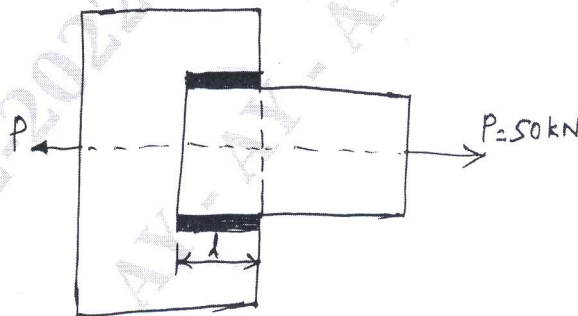

Fig Q8(a)
- 8 a. Two plates are joined by means of fillet welds as shown in Fig Q8(a). The leg dimension of the weld is 10mm and the permissible shear stress at the throat cross section is 75 N/mm^2 . Determine the length of each weld.